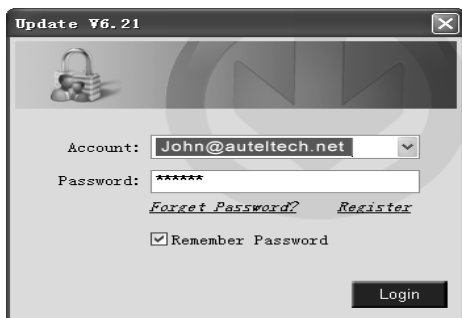

Figure 9.2
- 1) Run **Autel Update** in the **PC Suit** program. Wait for the Log In window to pop up. (Figure 9.2)